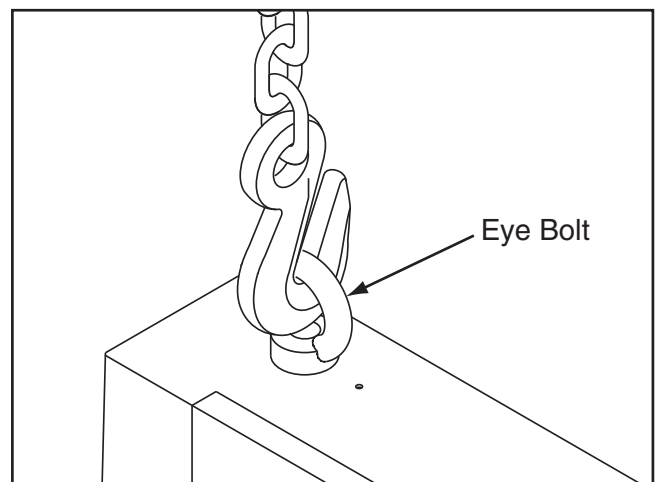

Figure 17. Lifting the bandsaw.
3. Place the lifting hook through the eye bolt at the top of the machine (see **Figure 17**), and lift the bandsaw slowly with a forklift.